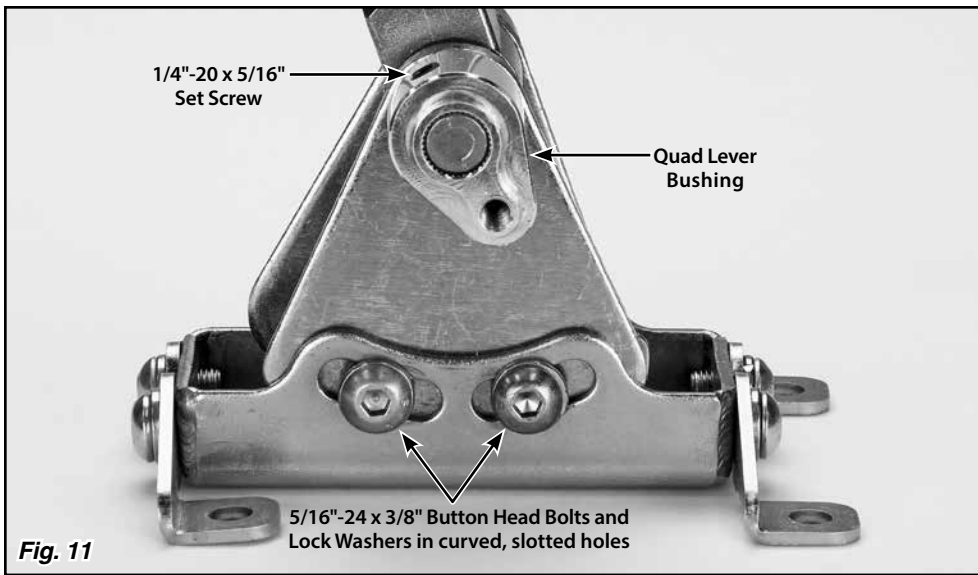

Fig. 11
**Step 13:** Make sure the two 5/16"-24 x 3/8" button head bolts and lock washers that are in the curved, slotted holes in the driver side of the floor mount mounting bracket are tight. Fig. 11 Place the Shifter in the desired location on the vehicle's floor. Make sure the shifter lever will not interfere with the dash when in Park, or with the seat when in low gear. The shifter assembly may be tilted forward or backward if needed by loosening the two 5/16"-24 x 3/8" button head bolts and lock washers that are in the curved, slotted holes in the driver side of the floor mount mounting bracket. Retighten the button head bolts and lock washers in the curved, slotted holes once you have the shifter assembly at the angle you want.